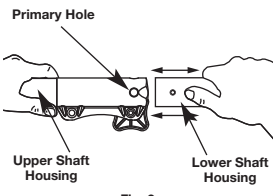

Fig. 3
3. While firmly holding the upper shaft housing, pull the add-on out of the coupler (Fig. 3).
3. While firmly holding the add-on, push it straight into the coupler (Fig. 3).